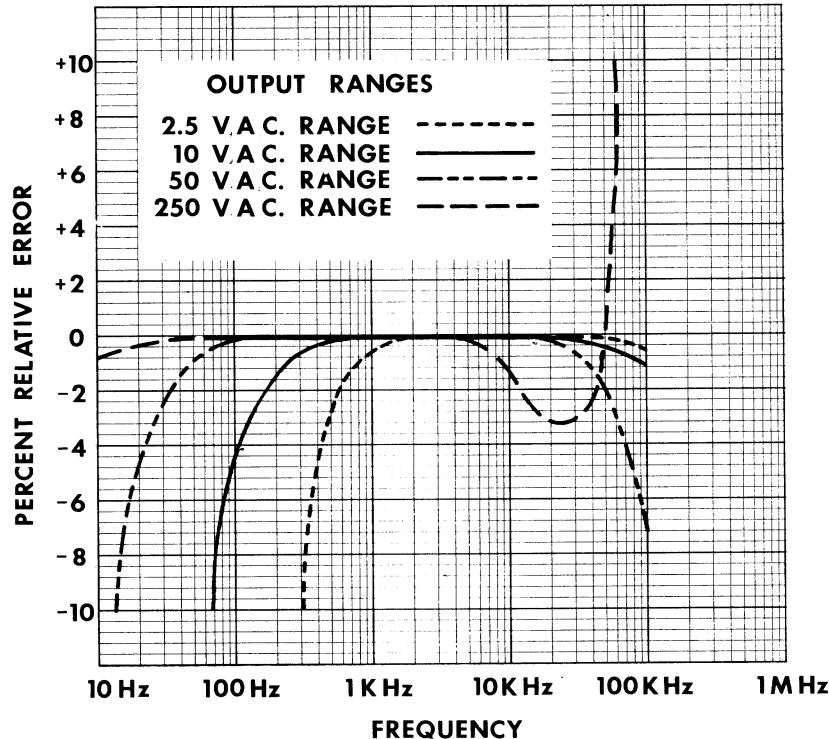

FIGURE 4-4. FREQUENCY RESPONSE OUTPUT RANGES
**4.12.1** It is often desired to measure the AC component of an Output Voltage where both AC and DC voltage levels exist. This occurs primarily in amplifier circuits. The 270 has a 0.1 mfd, 400 volt capacitor in series with the OUTPUT jack. The capacitor blocks the DC component of the current in the test circuit, but allows the AC or desired component to pass on to the indicating instrument circuit. The blocking capacitor may alter the AC response at low frequencies but is usually ignored at audio frequencies (Figure 4-4).